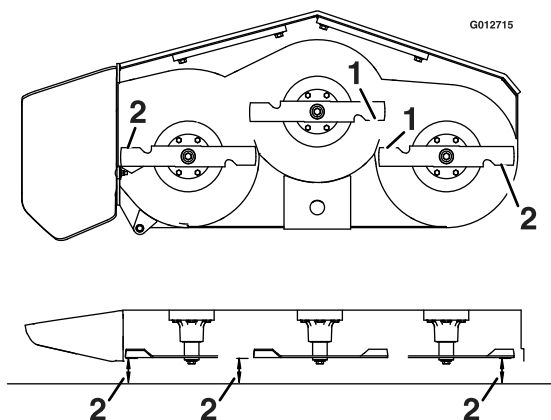

Figure 23
7. Measure between the outside cutting edges and the flat surface (Figure 23). If both measurements are not within 3/16 inch (5 mm), an adjustment is required; contact an Authorized Service Dealer.